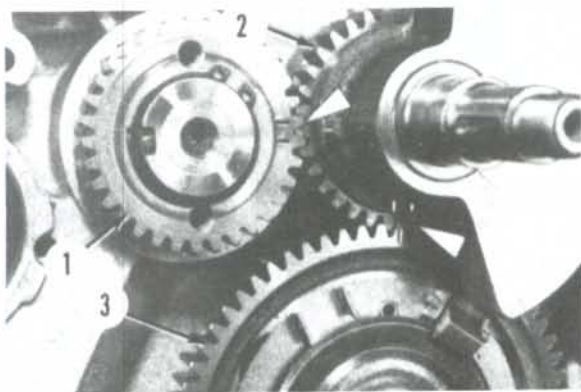

Fig. D1-11—Make certain timing marks are aligned as shown when reassembling engine.
To reinstall gears, proceed as follows: Heat crankshaft gear to about 150°C (300°F) before reinstalling. Heat bearings before installing onto balance weight shaft and camshaft. Make certain timing marks (Fig. D1-11) on crankshaft gear (1), balance weight gear (2) and camshaft gear (3) are aligned as shown. Install oil pump drive gear (1—Fig. D1-12) and check for specified backlash of 0.10-0.15 mm (0.004-0.006 inch) between crankshaft gear and oil pump gear. To adjust backlash, loosen pump mounting cap screws and rotate pump housing in crankcase as necessary. Tighten pump mounting screws to 10 N·m (8 ft.-lbs.). Tighten oil pump drive gear nut to 23 N·m (17 ft.-lbs.).
To reinstall camshaft, reverse the removal procedure. Be sure to align timing gear marks as shown in Fig. D1-11. Check and adjust camshaft end play as outlined in **TIMING GEARS AND FRONT COVER** section.
When reinstalling crankshaft, lubricate bearings and journals with oil prior to assembly. Be sure side of thrust washers with oil grooves is towards crankshaft. Tighten bearing retainer nuts to 35 N·m (26 ft.-lbs.). Be sure timing gear marks are aligned as shown in Fig. D1-11. Complete installation by reversing the removal procedure.